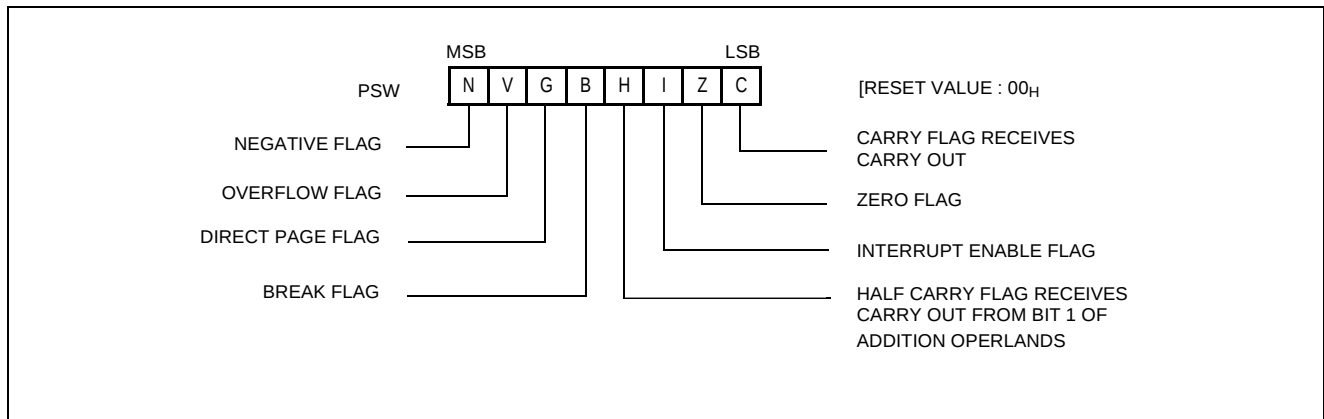

Figure 11-3 PSW (Program Status Word) Register
**Program Status Word:** The Program Status Word (PSW) contains several bits that reflect the current state of the CPU. The PSW is described in Figure 11-3. It contains the Negative flag, the Overflow flag, the Break flag the Half Carry (for BCD operation), the Interrupt enable flag, the Zero flag, and the Carry flag.